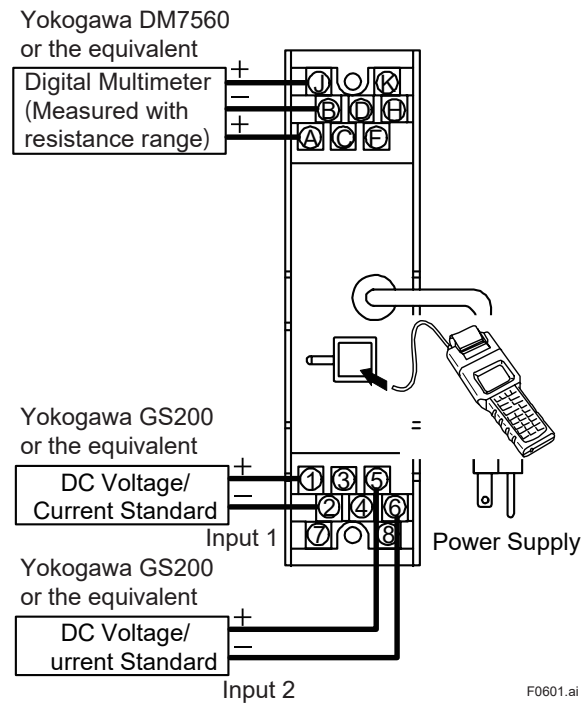

Figure 6-2 Wiring for Adjustment (SKYD-30x)
- Connect the test equipment corresponding to each of input referring to Figure 6-1 through Figure 6-2.